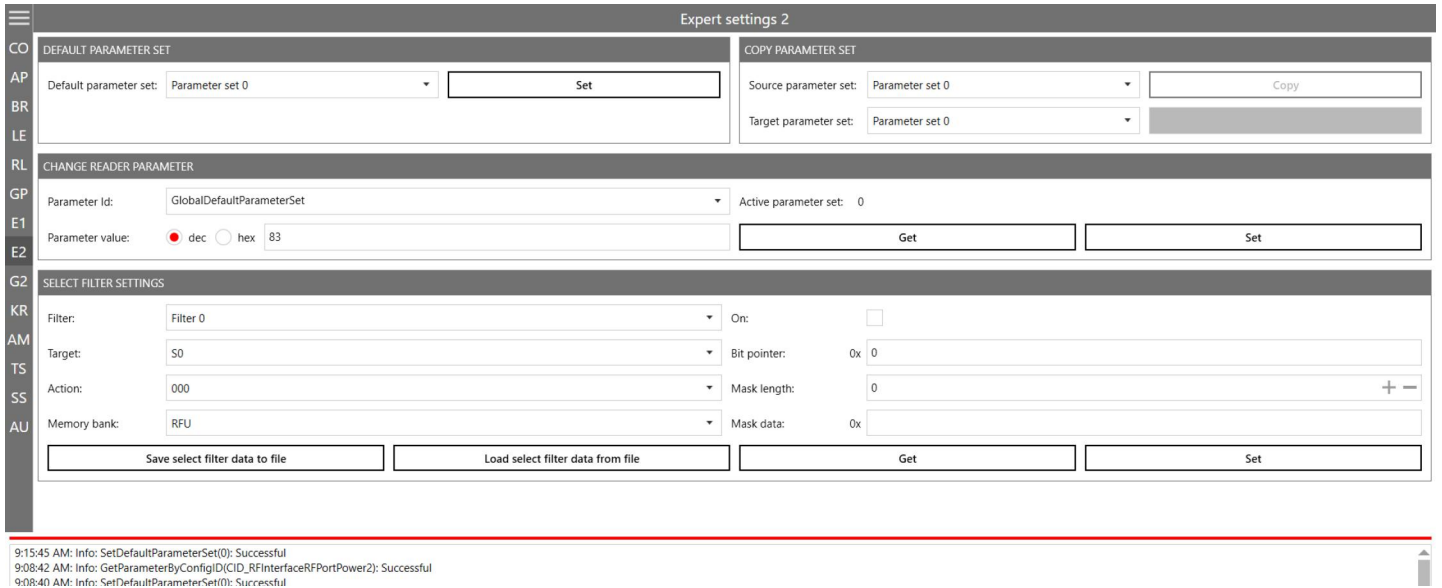

Fig. 57: Expert settings 2
1. Select the filter you would like to save the filtering settings to under **Filter** (①).
2. Select the target (②). Make sure the target matches the session set in ⑩ Fig. 57, p. 96.
3. Select an action (③). In the example, the action is set to **100**; see also *EPCglobal Gen 2 Specification*.
4. Select the **EPC** memory bank (④).
5. Activate the select filter (⑤).
7. Enter **40** at **Bit pointer** (⑥).
8. Enter the mask length at ⑦. In the example, *FC28* is one word, therefore, the value is **16**.
9. Enter the value (*FC28*) at ⑧.
10. Click **Set** (⑨).